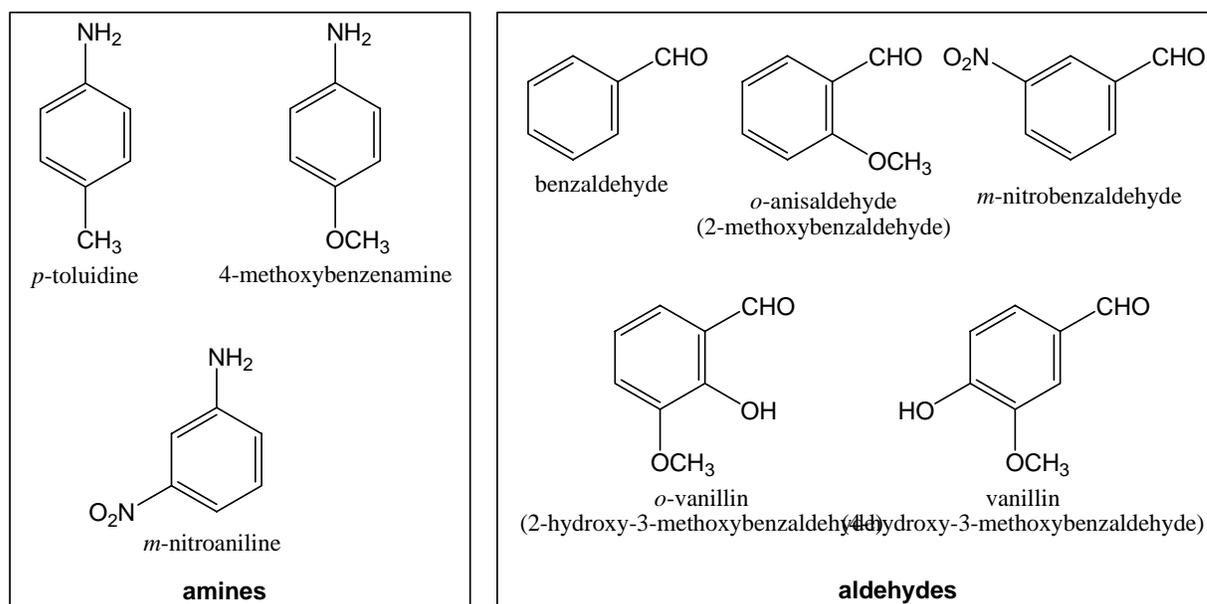

Figure 2. Some of the possible starting materials.
1. Weigh 1 mmol of an aromatic amine and 1 mmol of a carbonyl compound. Possible starting materials are shown in the Figure 2. You will be assigned a particular experiment involving one of the aldehydes and one of the amines.